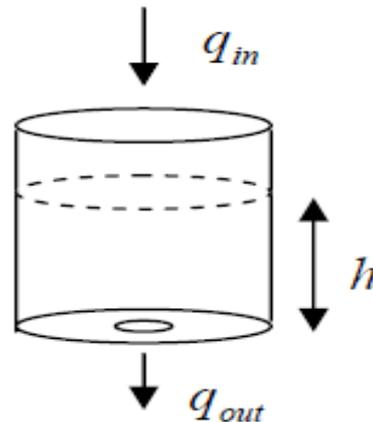

Figure 1.
Consider an open water tank with cross-sectional area A , *see figure 1*. Water is pumped into the tank at the top at rate of flow of q_{in} cubic metres per second. Water is flowing out of the tank through a hole in the bottom of the tank of area a .
6. The blocks may be connected by wires by first highlighting one block and then clicking on another while pressing the control key. A model of the water tank is shown in figure 1.